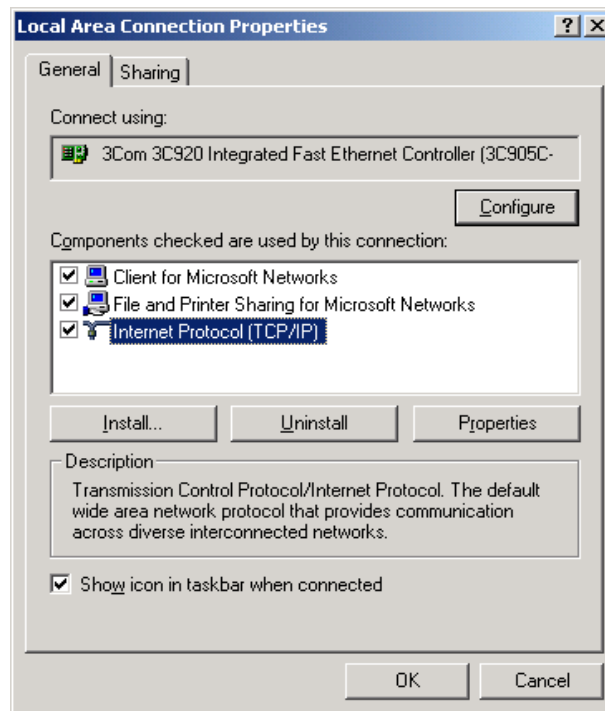

Figure C.2
2. The dialog box of networks is shown in Figure C.2. On the “**General**” property page select “**Internet Protocol(TCP/IP)**” and then click the “**Properties**” button.